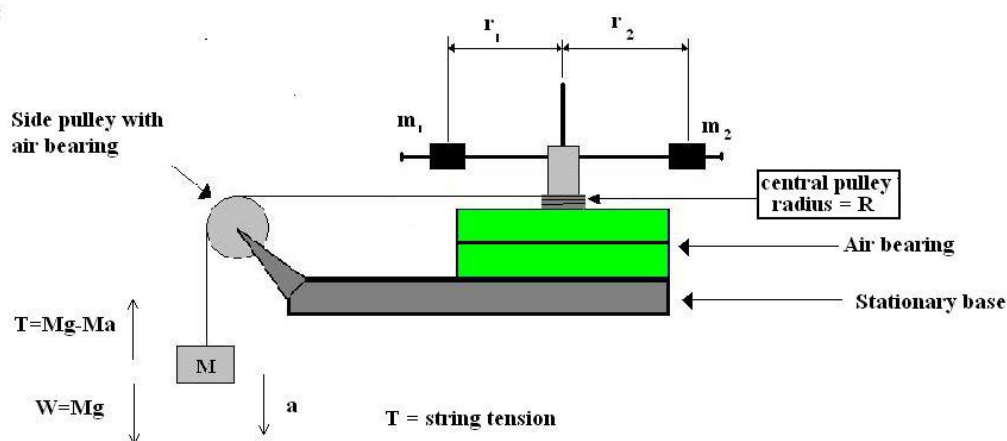
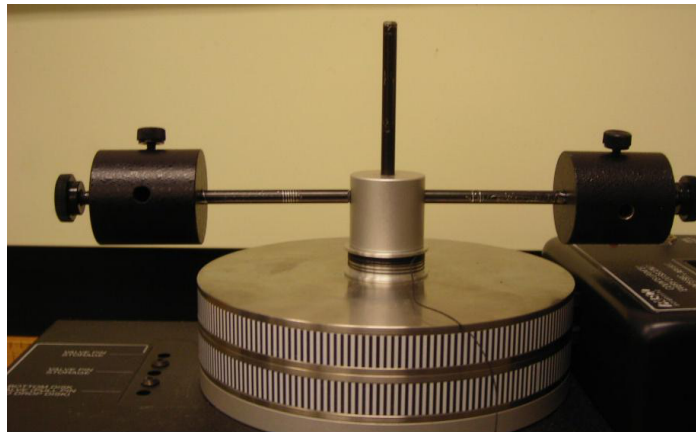

Figure 7.3: Schematic of the moment of inertia apparatus.
Figure 7.5: View of the apparatus with 2 masses at the same radius  $r$ .
A schematic of the equipment you will be using today is shown in Fig. 7.3. The masses and rod are supported by a rotating platform attached to a central pulley and nearly frictionless air bearings. If the two masses are placed on the axis of rotation (so  $r = 0$ ), then the measured moment of inertia  $I$  is the moment of inertia of the rotating apparatus *alone* plus the moment of inertia of each of the two cylinders about an axis through their own centers of mass, which we'll call  $I_0$ . So when the masses are placed at  $r = 0$ ,  $I = I_0$ . Now if the two masses are each placed a distance  $r$  from the axis of rotation Eq. 7.4 becomes:
To verify that the moment of inertia,  $I$ , does indeed depend on how the masses are distributed you will use the apparatus shown in Fig. 7.3 to calculate the angular acceleration,  $\alpha$ , and torque,  $\tau$ , of the rotating masses and then use Eq. 7.2 to calculate  $I$ . You will plot your measured  $I$  vs.  $r^2$
In order to get your rigid body to rotate you will wrap a string around the central axle (also called the central pulley) and run it over the side pulley to a known weight,  $M$ , as shown in Fig. 7.3. When you release the weight from rest just below the side pulley and let it fall to the floor, the tension,  $T$ , in the string will exert a torque,  $\tau$ , on the rigid body causing it to rotate with a constant angular acceleration,  $\alpha$ . **NOTE:** Be careful to not mix up the symbol for tension ( $T$ ) with the symbol for torque ( $\tau$ ) and the symbol for linear acceleration ( $a$ ) with the symbol for angular acceleration ( $\alpha$ ) in the following equations.
The tension in the string,  $T$ , comes from the weight which is hanging off the side pulley (see Fig. 7.3). By drawing the free-body diagram acting on the hanging mass and using Newton's Second Law, the tension in the string is:
2. Place the cylinders on the horizontal rod such that the axes of the cylinders are along the horizontal rod as far away from the center as possible (as shown in Fig. 7.5). Make sure the thumbscrew on each cylinder is tightened. The center of mass of each cylinder MUST be the same distance ( $r$ ) from the axis of rotation (i.e.  $r_1 = r_2$  in Fig. 7.3).
4. With the air supply on, attach the hanging mass ( $M$ ) to one end of a string and wind the other end around the central axle (pulley). The string should also pass over the side pulley such that the hanging mass is just below the side pulley as shown in Fig. 7.3. Hold the hanging mass stationary and measure its height ( $h$ ) using the floor as your reference point. Record this elevation in your spreadsheet and assign an appropriate uncertainty to this measurement. **Make sure to return your mass to this same height for each of your trials.**